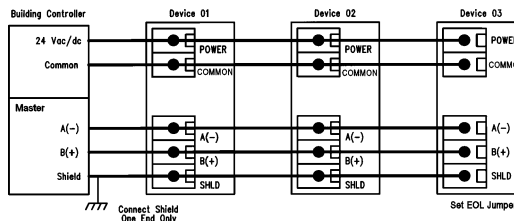

Fig. 3
- verse polarity protected and will not operate if connected backwards. (Fig. 3, 4 and 5)
- Connect the RS-485 network with twisted, shielded pair to the terminals marked A(-), B(+) and SHIELD. The positive wire connects to B(+), the negative wire to A(-), and the cable shield must be connected to the SHIELD terminal on every device. (Fig. 3, 4 and 5)
- Devices must be “daisy-chained” with the network connections entering and exiting each device separately. “T” or “drop” connections often cause network transmission errors. (Fig. 3, 4 and 5)
- If the device is installed at either end of an RS-485 network, an end-of-line (EOL) termination resistor (121 ohm) should be installed parallel to the A(-) and B(+) terminals. This device includes a jumper-selectable network termination resistor and will correctly connect the 121 ohm resistor to the PCB. (Fig. 3, 4 and 5)